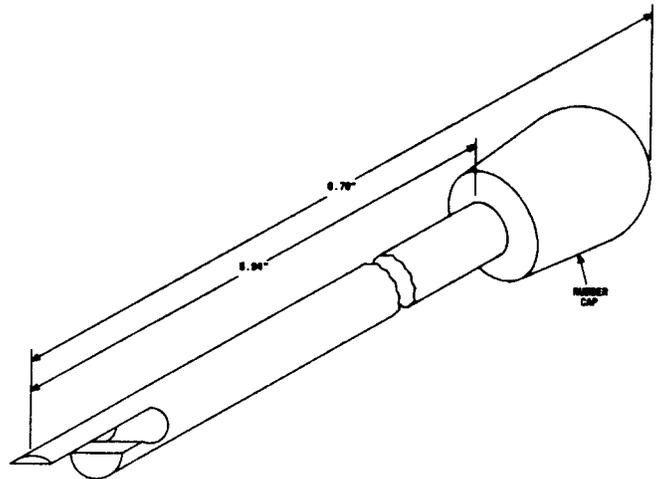

Fig. 21—964A Insertion Tool
2.23 **964A:** The 964A insertion tool (Fig. 21) is used for inserting flag-type spade lug receptacles such as AMP 250 series FASTON onto 221B and C terminals.